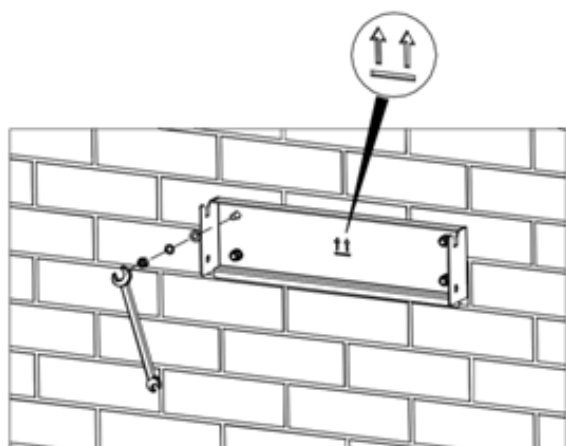

Figure 11D: Fixing the installation brackets
4. Fix the installation brackets to the expansion bolts and ensure the installation is firm enough (tightening torque: 13 N•m). See Figure 11D.